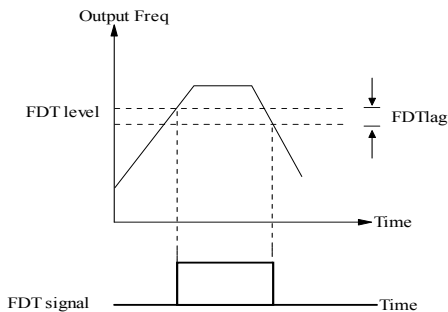

Fig. 5-3-9 Frequency detection FDT
- ◆ When the output frequency rises to a certain preset frequency (frequency detection threshold), the related terminal output will be valid. We called the preset frequency FDT level. In the dropping of output frequency, the related terminal output signal keeps on until the output frequency drops to another certain frequency below FDT level, which is called release frequency (Release frequency=FDT1 level-FDT1 lag), as shown in Fig. 5-3-9.